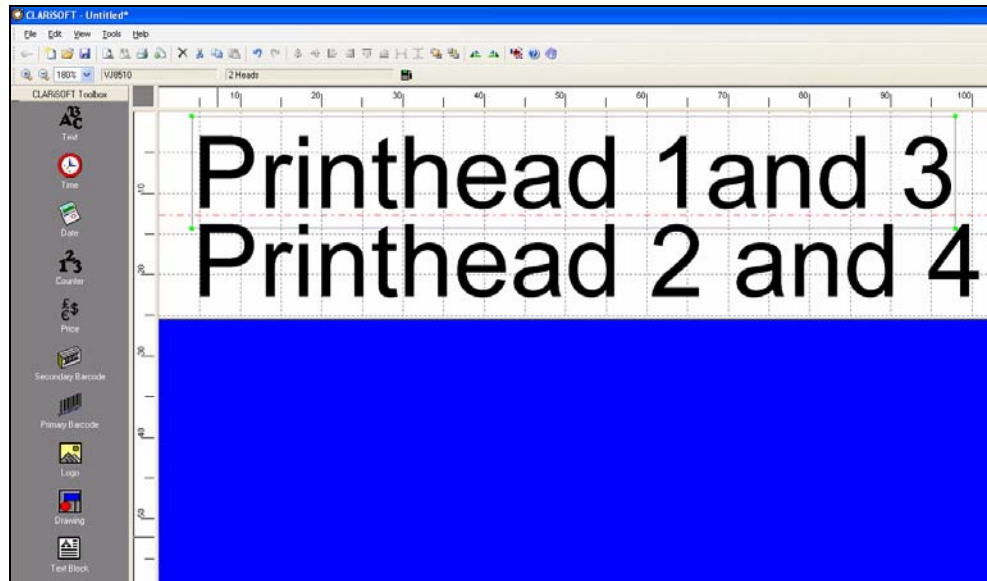

Figure 5-26: Printhead Settings
- Heads 3/4 like heads 1/2: Heads 3 and 4 print the same data as heads 1 and 2 (example, two-sided carton printing). In this case only two fields will be available for entering the print data. The text entered there applies equally to heads 1/2 and 3/4 (see Figure 5-26).